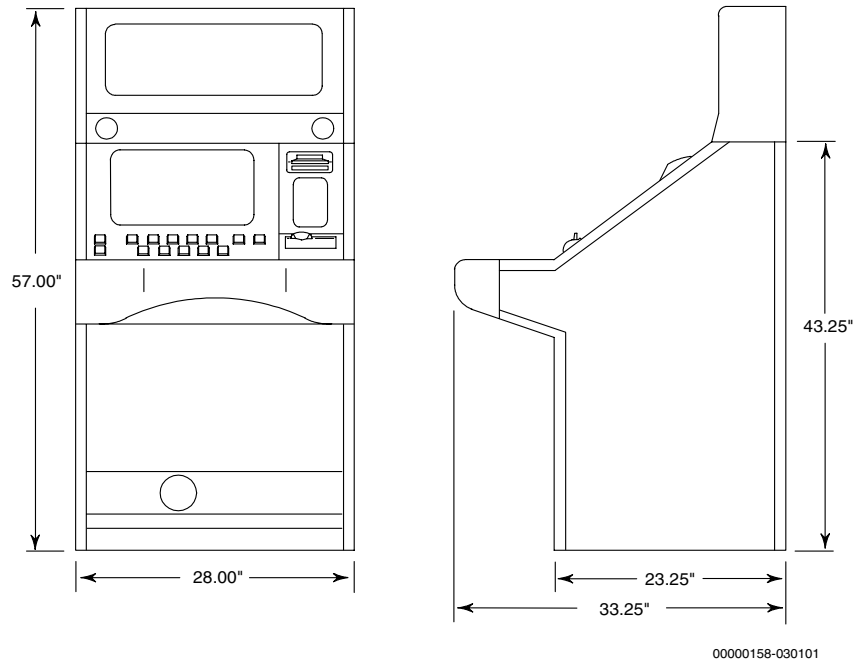

Figure 2-24. Cabinet Dimensions – Game King 17” Slant-Top with Square Top Box
- Cabinet Dimensions – Figures 2-24 and 2-25